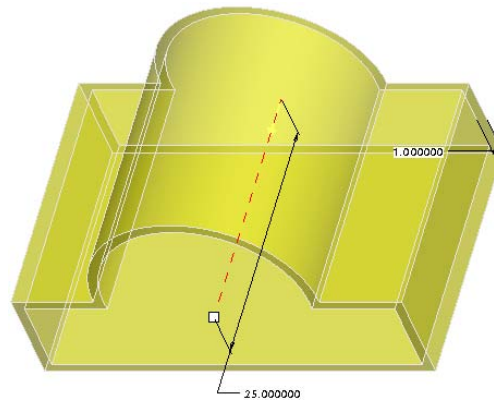

Figure 3-63 The default trimetric view of the model
- Specify the attributes to create the model and save the model, refer to Figures 3-63 and 3-64.
4. Enter a value of **1** in the right edit box and press ENTER. The model appears, as shown in Figure 3-63. The model is completed and now you need to exit the **Extrude** dashboard.